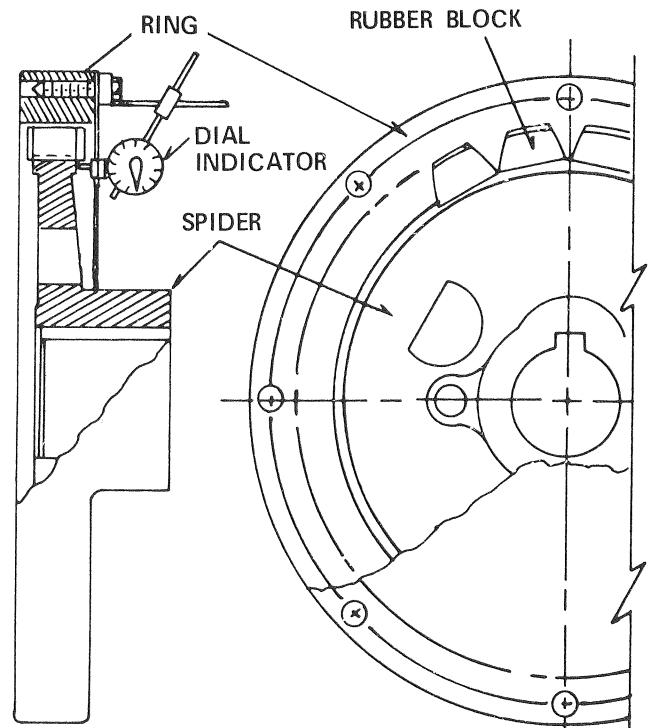

FIGURE 2-12 CHECKING ALIGNMENT OF TWIN DISC COUPLING.
2.13.1 A flywheel and twin disc clutch coupling provide a satisfactory coupling for motor generator sets operating with shaft speeds not in excess of 3760 RPM. The coupling should be parallel between the spider and the rings. Align within .03 inch total indicator reading between spider and ring by installing or removing shims, as necessary, from under motor or generator mounting pads. See figure 2-12.